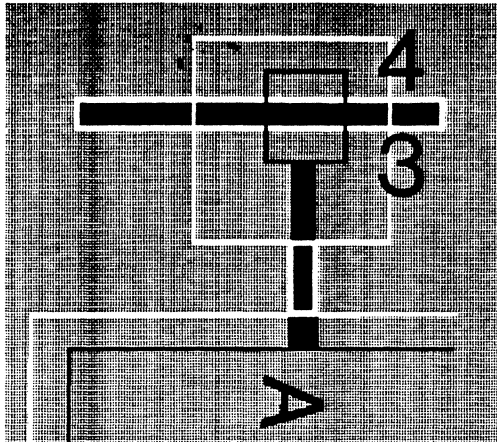
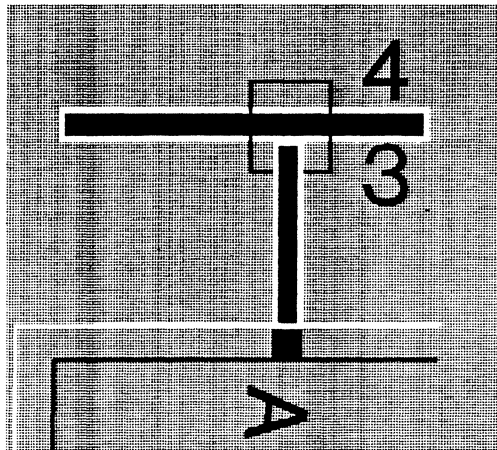

Figure 7a: Input A is correctly extracted from the bus.
Figure 7b: Input A is shorted to the bus.
To draw the A inputs as a 4-bit bus, first draw the long horizontal portion of the wire, then call up the Programs on Rectangles menu with PMiddleMouseButton (PMiddle). Select the *PatchWork generator* entry. In the next menu select the *Parameterized Bus*. The Terminal Viewer is prompting for the size of the parameterized bus. Answer 4 (CR). To extract the low order wire from the bus, call up the PMiddle menu again and select the *PatchWork generator* entry. Then select the *Parameterized Extractor* entry. Follow the Cedar and Dragon conventions for numbering bits by answering the Terminal Viewer prompt, "Parameterized index of the extracted wire?" with the number 3. Answer the next Terminal Viewer prompt, "Size of the parametrized bus?", with the number 4. Place the 4/3 icon and connect it to the A input of the first icon. In drawing the connection make sure the connecting wire does not short to the 4-bit bus. Figure 7a illustrates a proper connection. Figure 7b illustrates a wire that is shorted to the bus.
Figures 8a and 8b: Figure 8a should be used for the A and B inputs. Figure 7b should be used for the Sum.